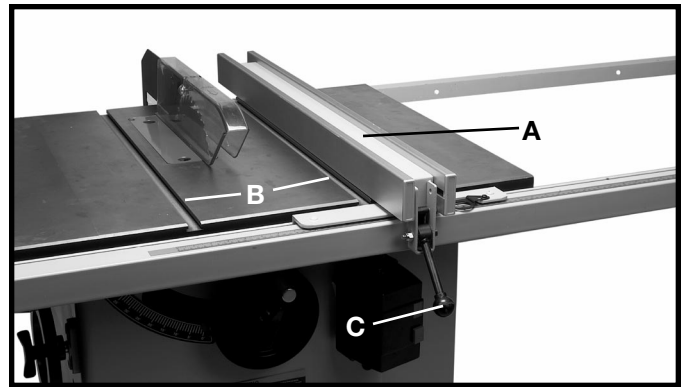
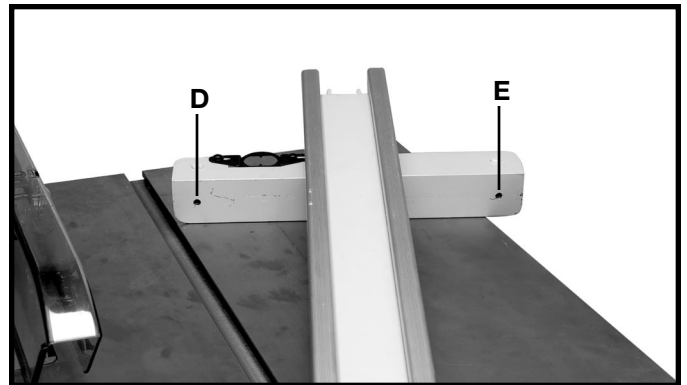
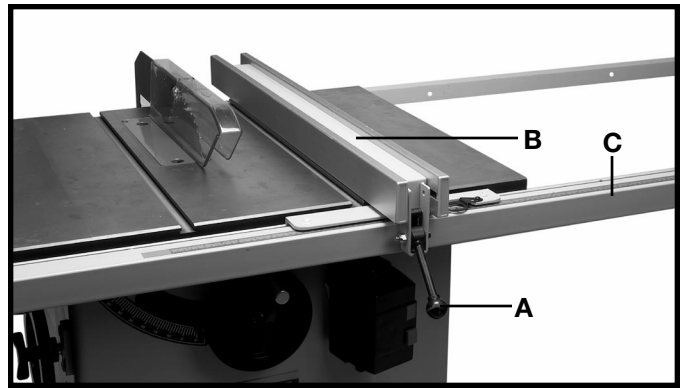

Fig. 11
Fig. 12
Fig. 13
**NOTE:** Delta table saws have been aligned at the factory so that the miter gage slots (B) Fig. 11 in the table are parallel with the saw blade. It is recommended, however, to check and make certain this alignment is correct then adjust the fence so it is parallel to the miter gage slot as follows:
To check and adjust, move fence (A) until the bottom edge of the fence is in line with the edge of one of the miter gage slots as shown, and push down on the fence clamping lever (C). The fence (A) should be parallel to the miter gage slot, the entire length of the table. If an adjustment must be made, lift up fence locking lever (C) Fig. 11 and remove the fence from the guide tube, as shown in Fig. 12. Slightly tighten or loosen one of the two adjusting screws (D) or (E) Fig. 12, using a 3mm hex wrench (F), not supplied. Place the fence on the guide tube and check again to see if the edge of the fence is parallel with the miter gage slot and repeat as necessary.
**IMPORTANT: VERY LITTLE MOVEMENT OF SCREWS (D) AND (E) IS NECESSARY TO ADJUST THE FENCE PARALLEL WITH THE MITER GAGE SLOT.**
When the fence locking handle (A) is pushed to the down position, as shown in Fig. 13, the fence assembly (B) should be securely clamped to the guide tube (C). If the fence assembly (B) is not securely clamped to the guide tube (C) when the handle (A) is pushed down, as shown in Fig. 13, lift up handle (A) and remove fence assembly (B). Slightly tighten the two adjusting screws (D) and (E) Fig. 12, using a 3mm hex wrench not supplied. Adjusting screws (D) and (E) Fig. 12, should be tightened an equal amount. Place fence on the guide tube and recheck to see if the fence assembly (B) Fig. 13, is securely tightened. Adjust further if necessary.